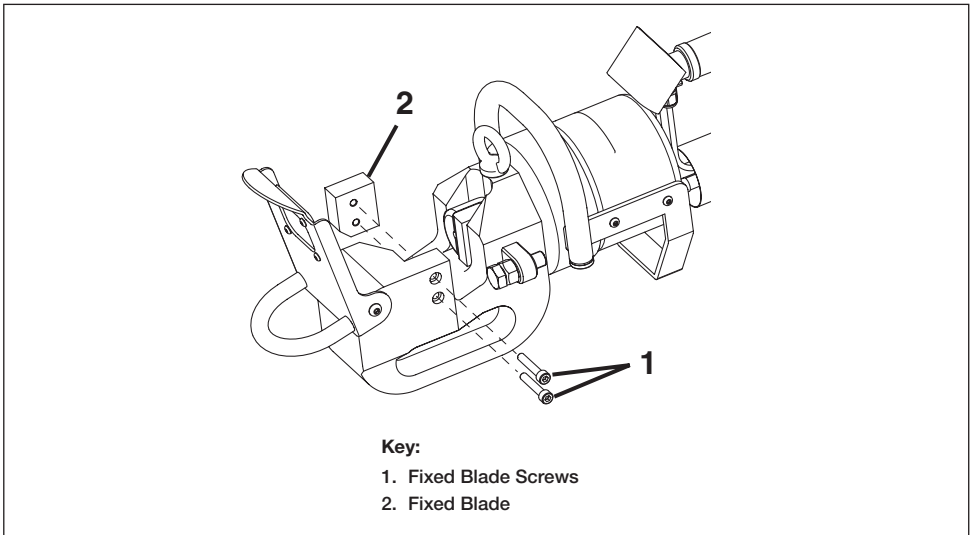

Figure 13, Fixed Blade Replacement
Replace the fixed blade as described in the following steps. Refer to Figure 13, items 1 and 2.
6. Remove the two fixed blade screws (Figure 13, item 1).
7. Remove the worn fixed blade (Figure 13, item 2) and replace it with the new fixed blade.
8. Install two NEW fixed blade screws (Figure 13, item 1). New fixed blade screws are included with the new blade. Torque to 18 ft-lb [25 Nm]. Also apply Loctite 243 or equivalent.